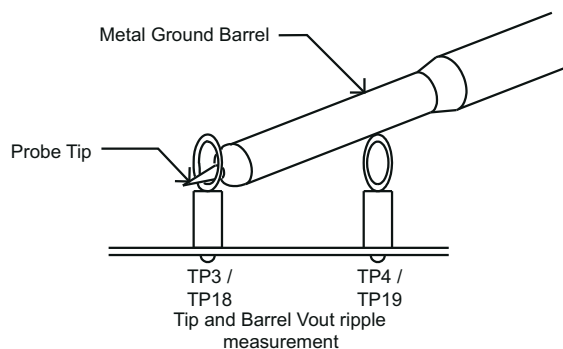

Figure 4-2. Output Ripple Measurement – Tip and Barrel Using TP3 and TP4 or TP18 and TP19
The TPS54291EVM-431 provides two test points for measuring the voltage generated by the module. This allows the user to measure the actual module output voltage without losses from output cables and connector losses. All output voltage measurements should be made between TP18 and TP19. To use TP18 and TP19, connect a voltmeter positive terminal to TP18 and negative terminal to TP19. For output ripple measurements, TP18 and TP19 allow a user to limit the ground loop area by using the tip and barrel measurement technique shown in Figure 4-2. All output ripple measurements should be made using the tip and barrel measurement. Even this tip and barrel measurement technique increases the measured switch edge noise. For improved output ripple measurement, measure the output ripple at the output capacitor (C17).
The input voltage source (V_{IN}) should be a 0-V to 15-V variable DC source capable of 2-A DC. Connect V_{IN} to J1 as shown in Figure 4-2.
TP3 and TP4 or TP18 and TP19 can be used to measure the output ripple voltages by placing the oscilloscope probe tip through TP3 or TP18 and holding the ground barrel to TP4 or TP19 as shown in Figure 4-2. For a hands free approach, the loop in TP4 or TP19 can be cut and opened to cradle the probe barrel. Using a leaded ground connection can induce additional noise due to the large ground loop area.
9. Place a fan as shown in Figure 4-2 and turn it on, making sure air is flowing across the EVM.
5. Connect an oscilloscope probe to TP3 and TP4 or TP18 and TP19 as shown in Figure 4-2.